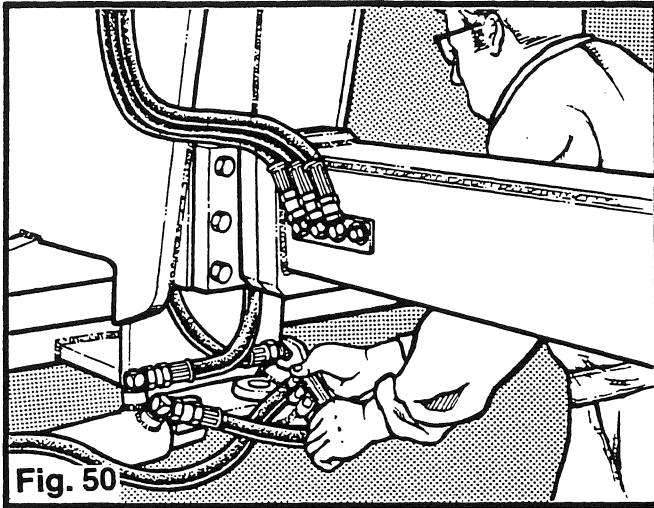

Fig. 50
1. Disconnect the two hydraulic hoses from the steering cylinders. (Fig. 50) Plug the fittings and cylinder ports to prevent contamination. Identify the hoses to prevent confusion during reassembly.